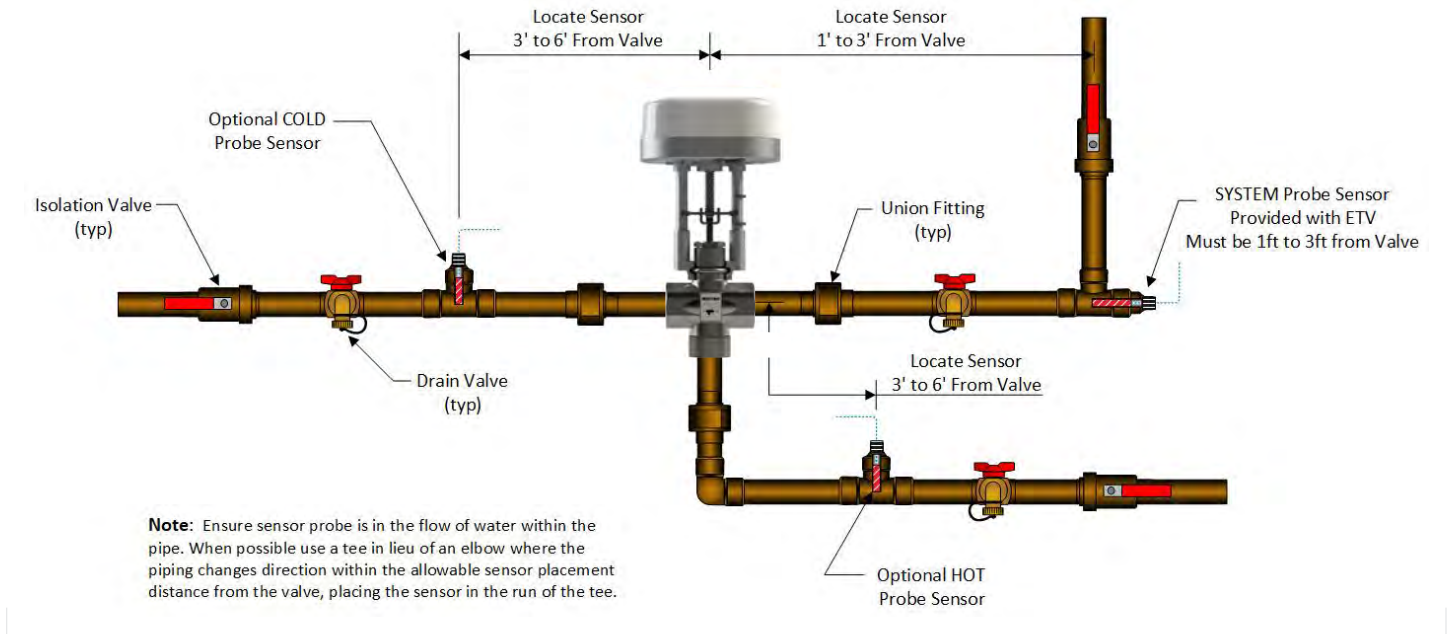

FIGURE 2
- 3 Use isolation valves (as shown in Figure 2) to isolate system components.
- 4 Use unions (as shown in Figure 2) to allow for servicing and, if required, removal of the DTV valve and sensors.
- 5 Include drain valves (as shown in Figure 2) to assist in servicing of the DTV valve and sensors.
Sensor probes must be installed within the flow of water in the pipe (see Figure 2). When possible, use a tee fitting rather than an elbow fitting where the piping changes direction within the allowable sensor placement distance from the valve. The sensor probe is then placed in the run of the tee fitting as shown as the System Sensor Probe in Figure 2.
When installing the probe sensor in a tee fitting, perpendicular to a run of piping, the tip of the probe sensor should be positioned at the centerline of the piping (see optional HOT or COLD probe sensor in Figure 2). This may require a nipple and coupling in addition to the tee fitting.